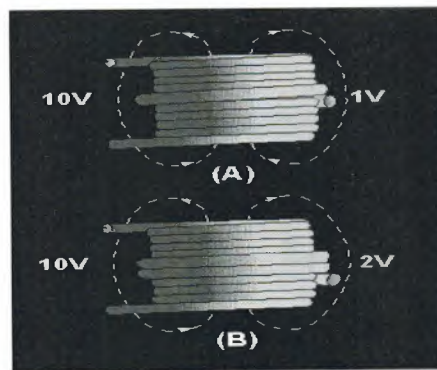

Figure 1.6.10. - Transformer turns and voltage ratios.
The total voltage induced into the secondary winding of a transformer is determined mainly by the RATIO of the number of turns in the primary to the number of turns in the secondary, and by the amount of voltage applied to the primary. Refer to figure 1.6.10. Part (A) of the figure shows a transformer whose primary consists of ten turns of wire and whose secondary consists of a single turn of wire. You know that as lines of flux generated by the primary expand and collapse, they cut both the ten turns of the primary and the single turn of the secondary. Since the length of the wire in the secondary is approximately the same as the length of the wire in each turn in the primary,
Since the same flux lines cut the turns in both the secondary and the primary, each turn will have an emf of one volt induced into it. The transformer in part (A) of figure 1.6.10 has only one turn in the secondary, thus, the emf across the secondary is one volt.